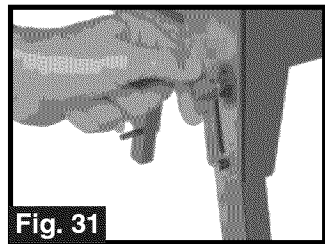

Fig. 31
2. Loosen butterfly knobs that hold the first set of legs in place. The knobs are located on table base (Fig. 31). Pull legs out of notches on table base and fold up. The legs should be folded so that the knobs are tightened in the uppermost part of their track.